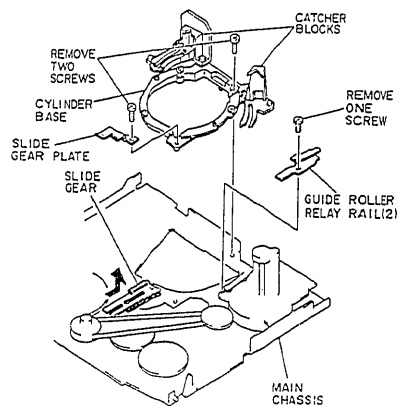

Fig. 2-58
1) Remove two (2) screws and remove the cylinder base and slide gear plate from the main chassis. (See Fig. 2-58)
- (2) Guide Roller Relay Rail (2)
2) Remove one (1) screw and remove the guide roller relay rail (2) from the main chassis. (See Fig. 2-58)
- (3) Slide Gear
2) Remove the slide gear in the direction of the arrow from the main chassis. (See Fig. 2-58)